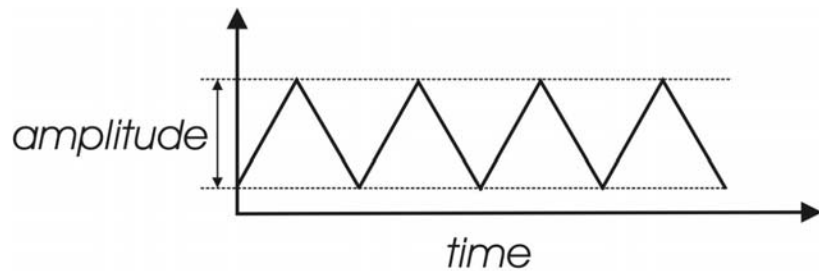

figure 4
**Amplitude** – The strength of a sound’s vibration measured in Decibels (dB). This corresponds to the musical term Loudness (figure 4).